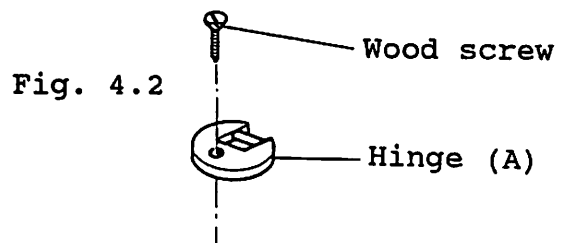

Fig. 4.2
* The hinges (A) should be placed with their chamfered surface face up, as shown in Fig. 4.2.